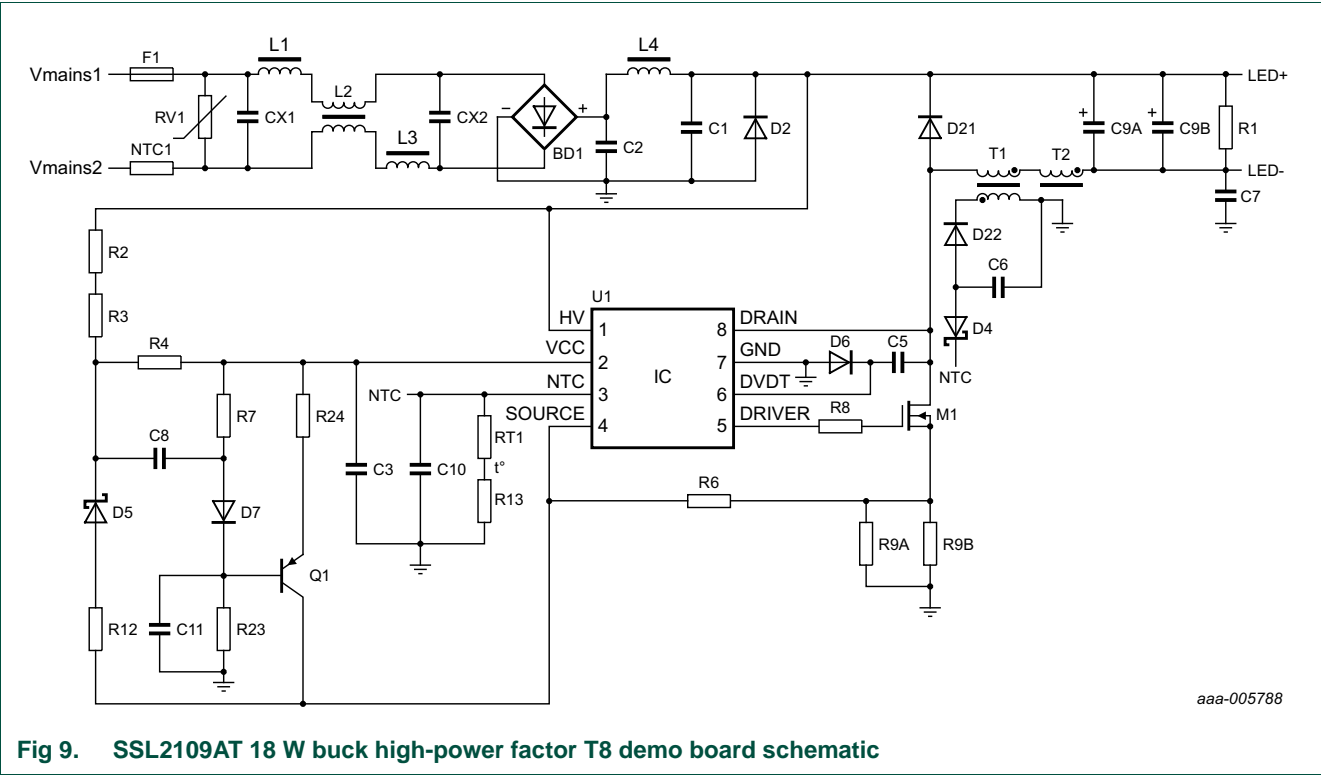

Fig 9. SSL2109AT 18 W buck high-power factor T8 demo board schematic
Figure 9 shows the schematic for the SSL2109AT demo board. The SSL2109AT demo board supports universal mains input (100 V (AC) to 264 V (AC)) applications. To maintain accurate line regulation, components D5 and R12 are required. These components provide a compensation for the modulated peak current, with respect to the input voltage.